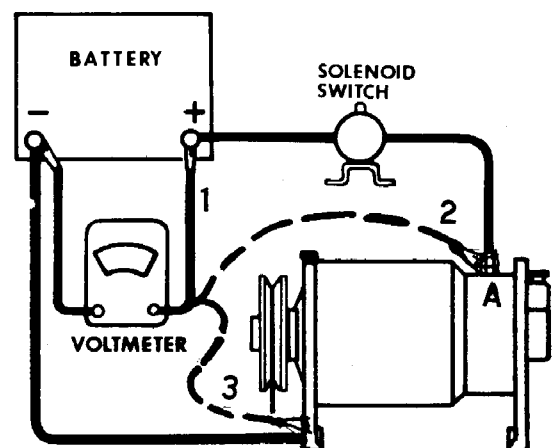

Figure 5
2. Insulated Circuit Resistance Test: Move Red Voltmeter Clip to Starter - Gen. "A" Terminal #2 - Figure 5. Crank engine and record voltage. If more than .5 volts lower than in Step #1 above (check cables, connections or solenoid).